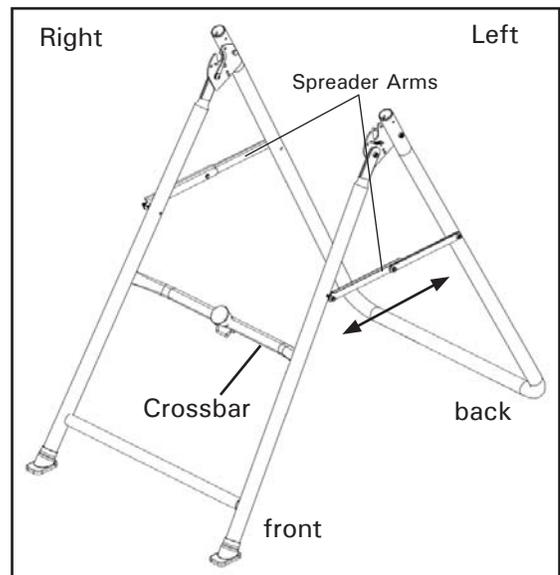

Figure 2
- Open the A-frame and make sure the Spreader Arms are locked and the front of the Crossbar is facing you (Figure 2).